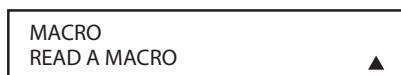

Figure 111.
- At the next menu screen, press the **▲/▼ Navigation Button 16** until the bottom line in the remote's LCD shows **READ A MACRO**. Press the **Set Button 18** to begin the process of reading a macro (**Figure 111**).